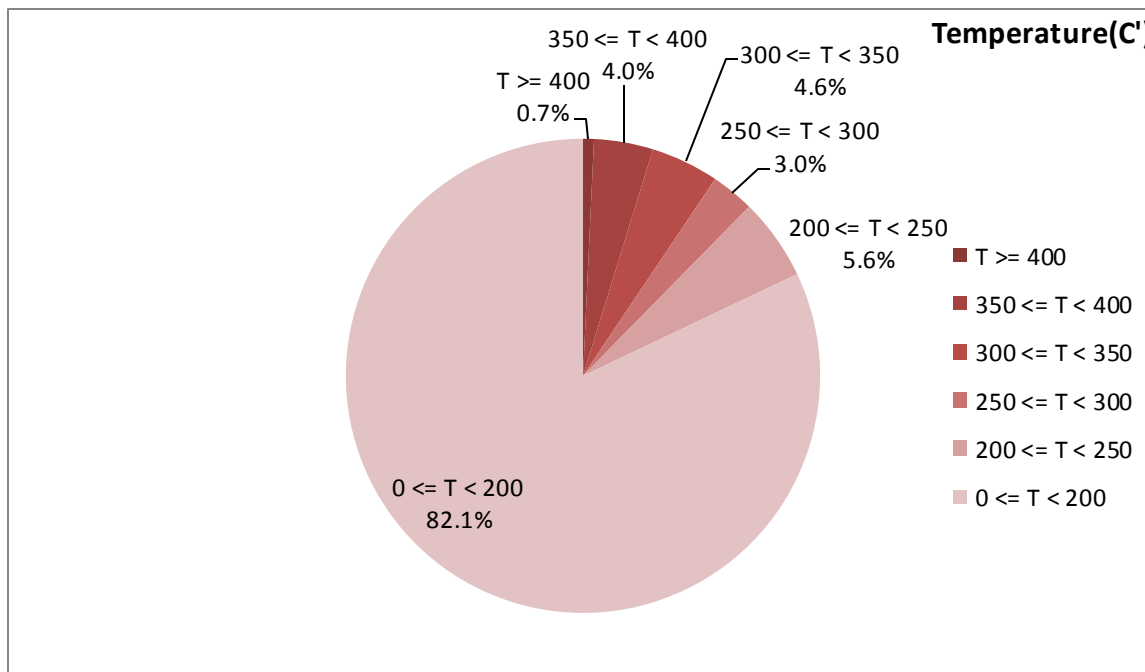

Figure 2-Temperature distribution over the working hours
- Figure 2, 17 display flow temperature distribution for DPF’s upstream. It can be obviously observed that 4.7% of total working-time temperature is above 350 °C and 12.2% above 250°C. Considering DPF company recommended operable situation (30% above 250°C), beside high idle working time (79%) during this period, which was because of bus accident, it could be concluded this DPF operation was fantastic during this period.